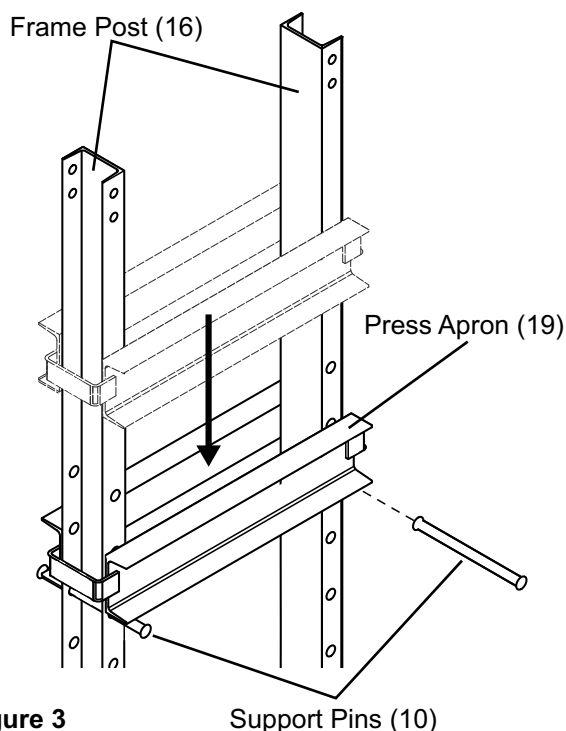

Figure 3
- Slide the Support Pins (10) into the holes in the Frame Posts (16). With assistance, lift the Press Apron (19) to the top of the Frame Posts, then lower into place down the Frame Posts so the Press Apron rests on the Support Pins. See Figure 3.